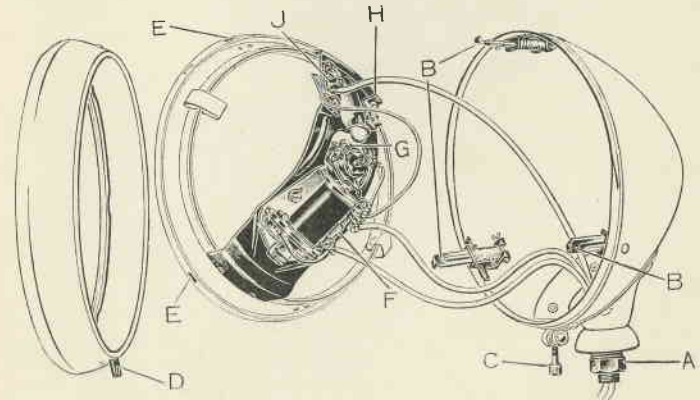

Fig. 13.
The lamps are universally mounted which allows the beams of light to be adjusted to the best advantage. To alter the position of the lamps, slacken the mounting nut "A," Fig. 13 and move the lamp to the position desired, afterwards tightening up the lock nut securely.
To remove the lamp front for bulb replacement or focussing, slacken the screw (C) Fig. 13 on the underside of the lamp body and swing aside clear of locating slot (D) and the rim can then be withdrawn. The lamp reflector houses the bulb holder and bayonet, and can be removed by pulling forward clear of the spring loaded reflector supports (B). To focuss the bulbs, slacken screw (G) and move bulb to desired position. Tighten screw clip securely after focussing.